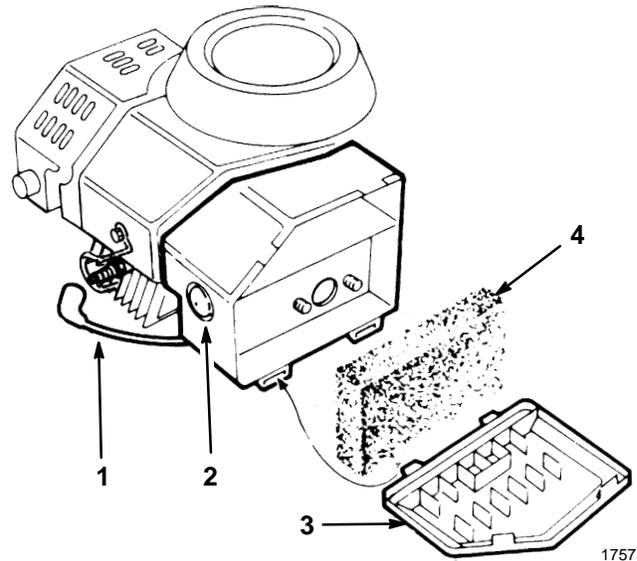

**Figure 4**
- Remove red cap from end of fuel line and from end of elbow fitting on gas tank. Slide end of fuel line onto elbow fitting (Fig. 4). Secure fuel line in place with fuel line clamp.